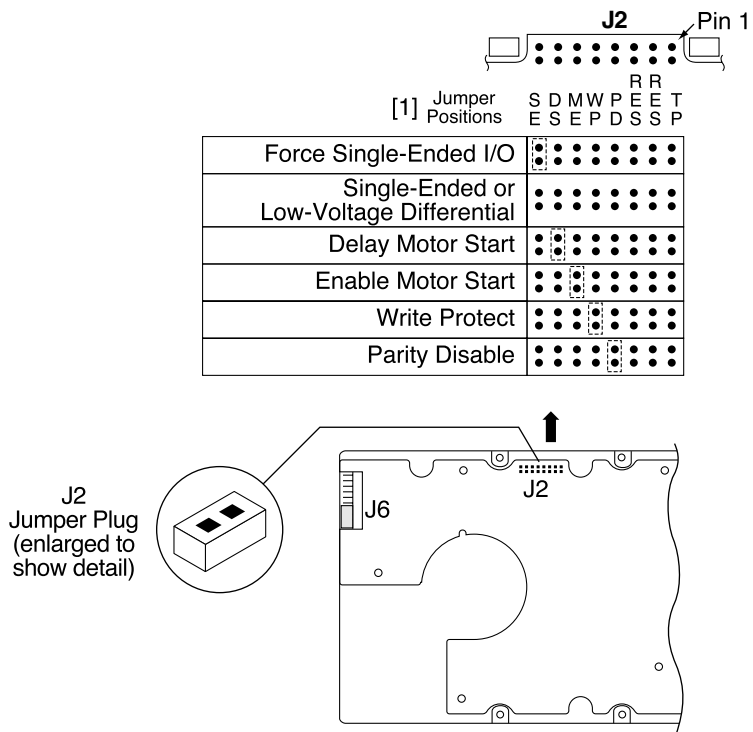

Figure 19. J2 option select header (for N and W models)
2. See Figure 19 for pins used for Termpower.